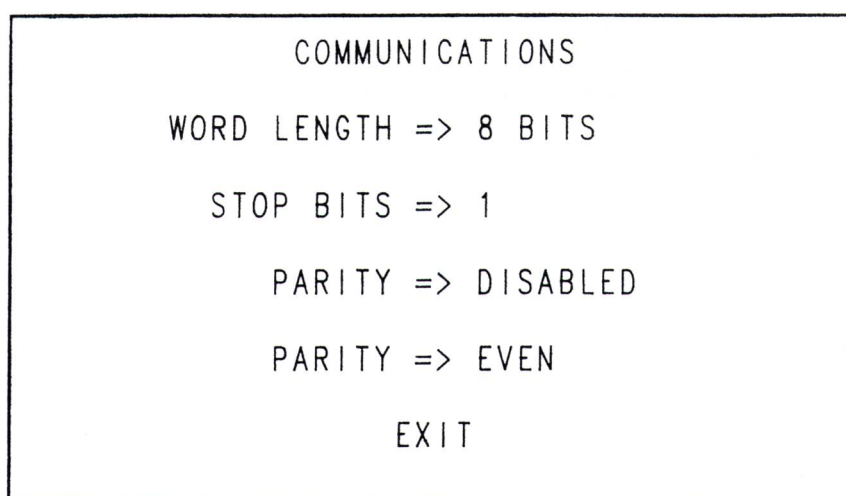

Figure 2-6
- 2) Touch the line containing the word SERIAL, which will activate the communications setup procedure. The display should look as shown in Figure 2-6. If it is not exactly the same as shown, just touch the words that are different and they will change to the correct settings.